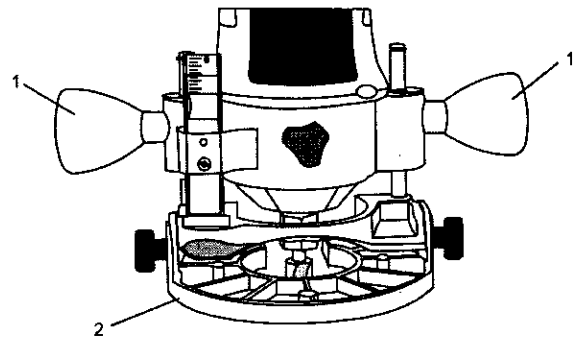

Fig. 16
1. Loosen both height adjusting knobs (1) by turning them counter clockwise (see Fig. 16).
2. Slide router base (2) up or down to obtain the desired depth of cut.